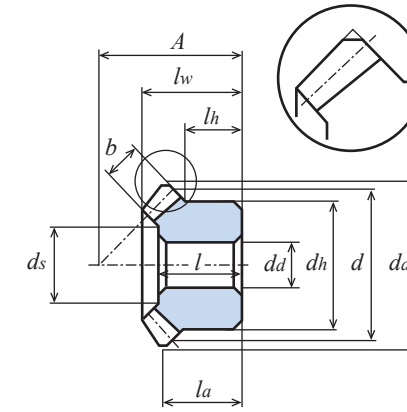

Fig. 1 (Tip chamfering)
- ★ The values in parentheses below "Tip diameter da " are theoretical values. The actual maximum diameter is the value obtained after the teeth are chamfered parallel to the shaft center. (See Fig. 1.)
- ① This is a theoretical value obtained when a pair of gears of the same type and material are meshed with each other.